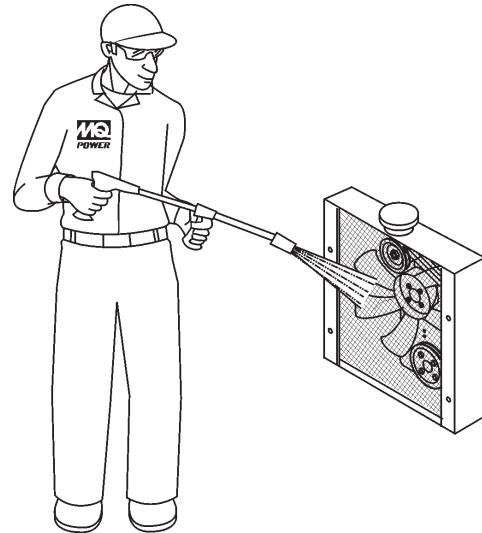

Figure 58. Air Cleaner/Indicator
This indicator (Figure 58) is attached to the air cleaner. When the air cleaner element is clogged, air intake restriction becomes greater and the dust indicator signal shows **RED** meaning the element needs changing or service. After changing the air element, press the dust indicator button to reset the indicator.
- The radiator (Figure 58) should be sprayed (cleaned) with a high pressure washer when excessive amounts of dirt and debris have accumulated on the cooling fins or tube. When using a high pressure washer, stand at least 5 feet (1.5 meters) away from the radiator to prevent damage to the fins and tube.